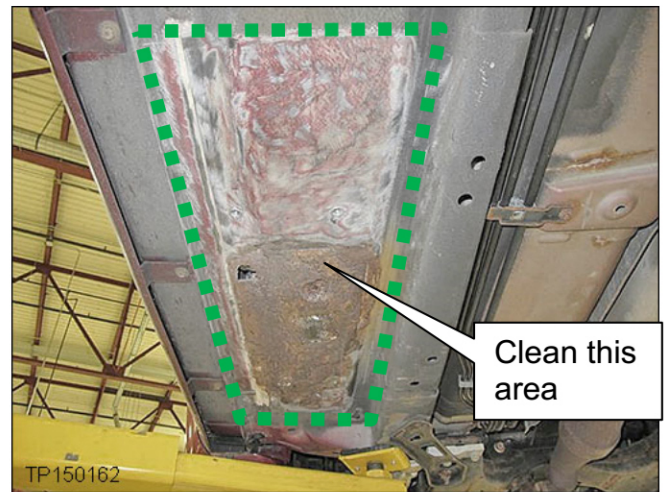

Figure 3
8. Clean all of the undercoating and loose rust off of the floor pan in the area shown in Figure 3.